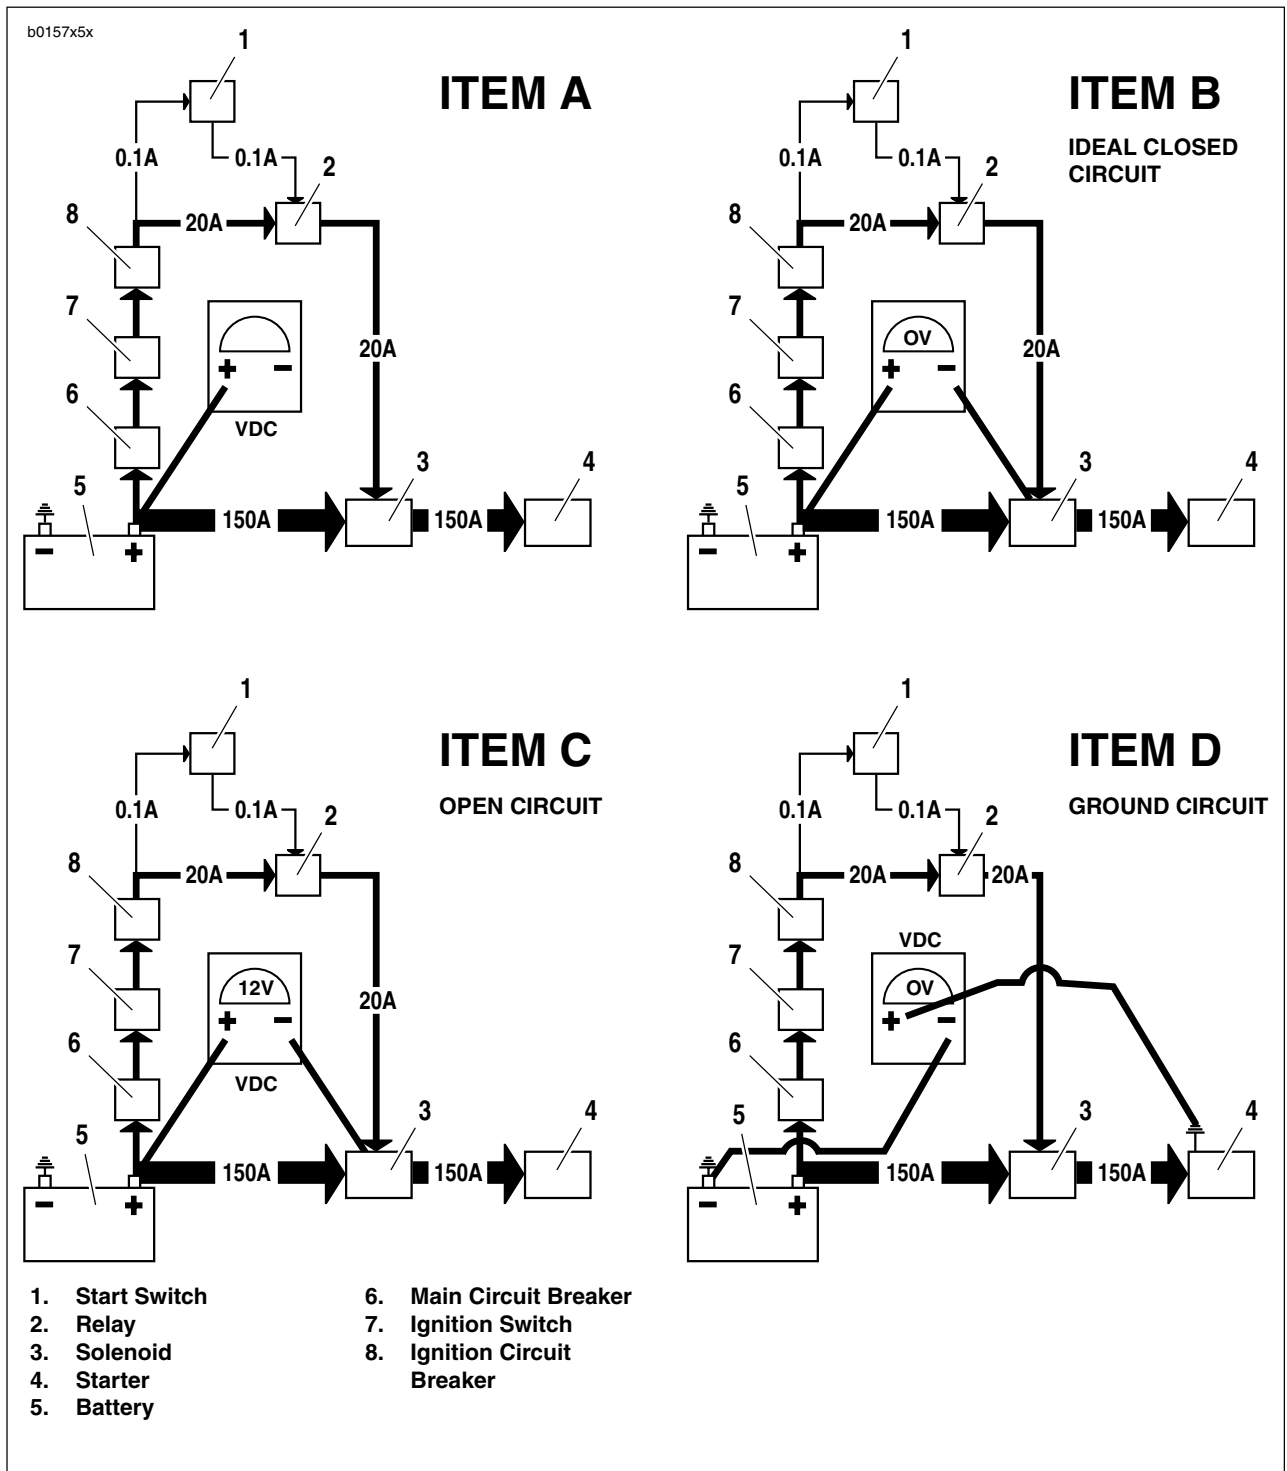

Figure 5-4. Typical Circuitry. Refer to wiring diagrams for more information.
1. See ITEM A in Figure 5-4. Attach your red meter lead to the most positive part of the circuit, which in this case would be the positive post of the battery (5).
2. See ITEM B in Figure 5-4. Attach the black meter lead to the final destination or component in the circuit (solenoid terminal from relay).
5. See ITEM C in Figure 5-4. An open circuit should read 12 volts, displaying all the voltage dropped, and the entire difference in potential displayed on the meter.
8. See ITEM D in Figure 5-4. The negative or ground circuit can be checked as well.